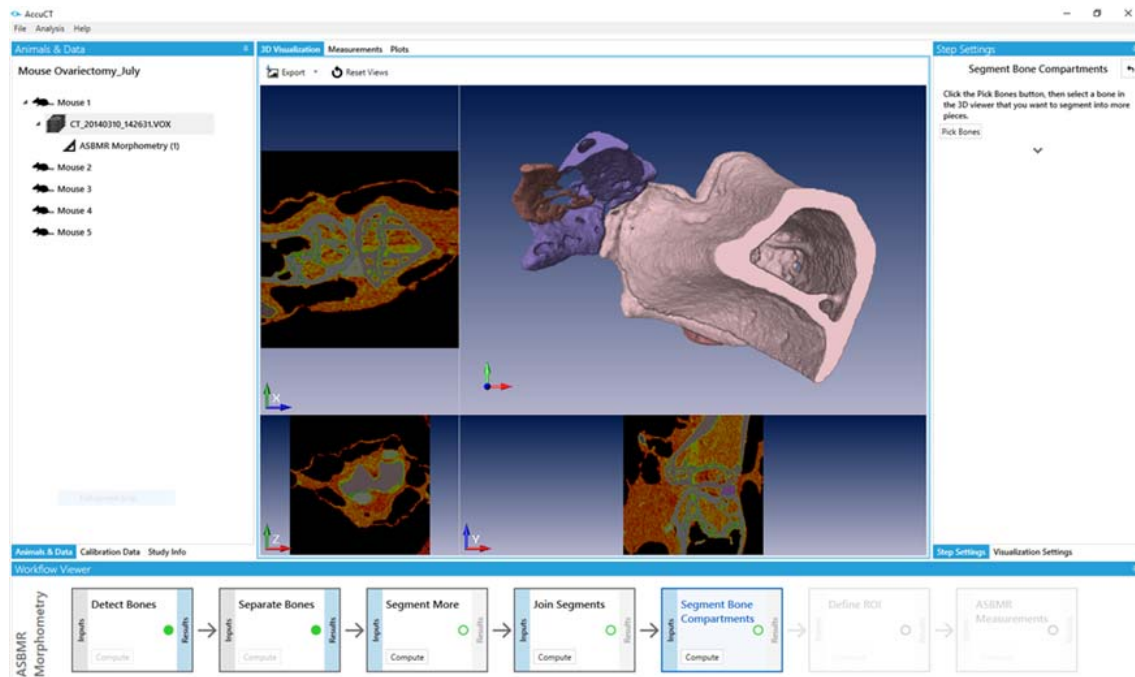

Figure 39. Separate Bones Step Results
- Click the **Compute** button in the Separate Bones box on the Workflow Viewer Tab. The results of the Separate Bones step display on the AccuCT Main Window. See Figure 39.